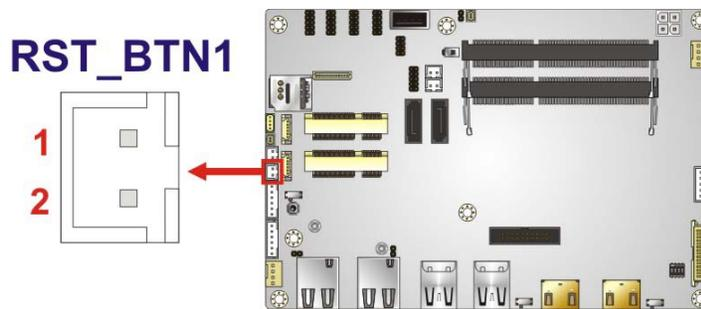

Figure 4-18: Reset Button Connector Location
- CN Location: See **Figure 4-18**